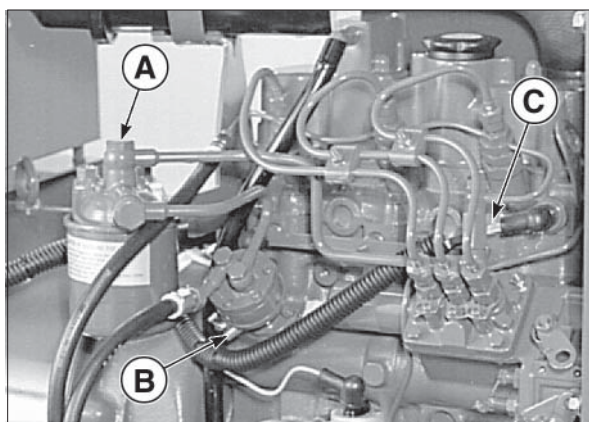

Figure 6: NL753 Fuel System.
2. Loosen bleed bolt “A” (Figure 6) on top of the filter. Pump hand primer “B” on fuel lift pump until pure fuel (no bubbles) escapes from bleed bolt “A”. Tighten bleed screw “A”.